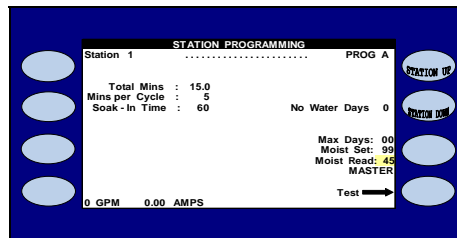

Figure 5.43
7. Press the **TEST STATION # FOR MOISTURE SENSOR** Menu key to activate test. The screen will show “READING SENSOR ON # please wait (Less than 15 seconds)” for which ever station you selected. After a brief test the **STATION PROGRAMMING** screen will appear with the Moisture Sensor reading displayed (Figure 5.43).